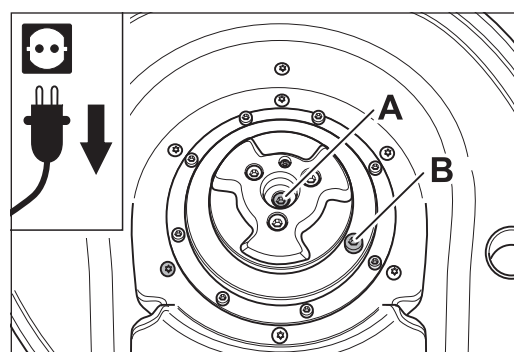

Fig. 34 The two screws with markings (A and B) are oil drainage screws. **DO NOT UNSCREW THEM!**
**For this reason, NEVER open the oil drainage screws in the motor shaft or in the gear cover (Fig. 34, A and B)!**